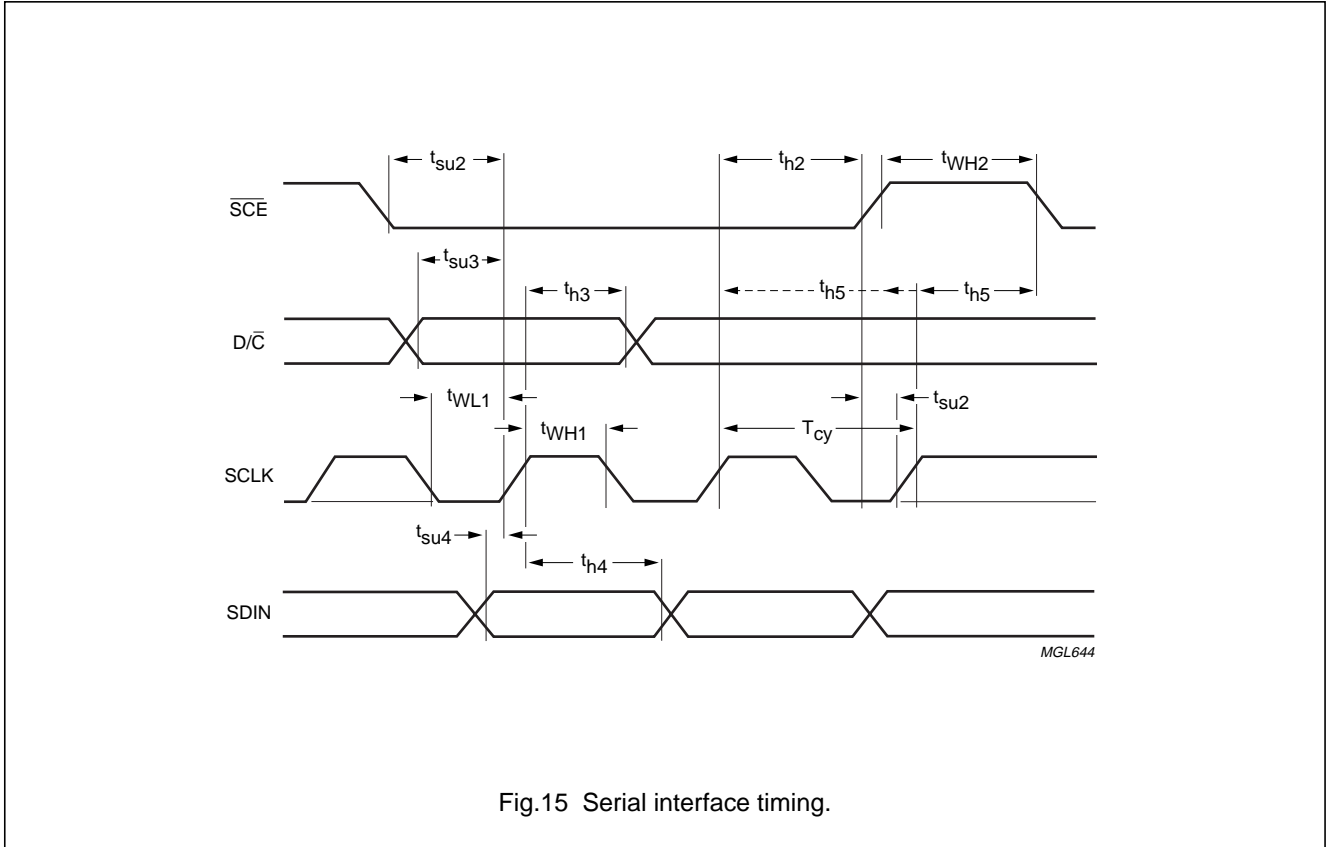

Fig.15 Serial interface timing.
- th5 is the time from the previous SCLK positive edge (irrespective of the state of  $\overline{\text{SCE}}$ ) to the negative edge of  $\overline{\text{SCE}}$  (see Fig.15).